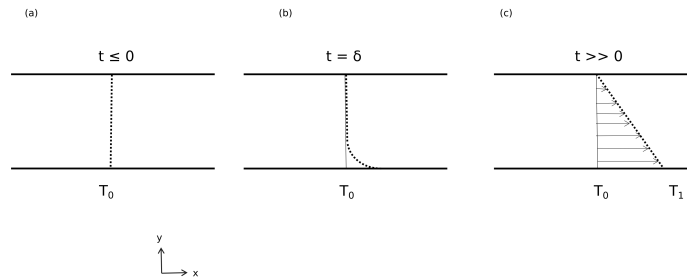

Figure 1.4: Solid slab of conducting material between 2 plates
- Consider two parallel plates : one placed at  $y = 0$  and the other placed at  $y = Y$  as shown in figure 1.4, with a conducting solid between them. Here we assume these plates are basically infinitely long and wide. The system is at equilibrium with no heat sources anywhere. Figure 1.4(a) shows how the temperature is uniform at  $T_0$  every point between the two plates.
- Figure 1.4(b) describes a snapshot of the system where some of the thermal energy has started to go across to the interface atoms of the slab but most of it is still yet unaffected.
- Note that the top plate is still exposed to the environment, which is assumed to be at the temperature  $T_0$ . Over time, the solid atoms begin to transmit heat across by the two mechanisms mentioned above and energy gets imparted along the y direction. Figure 1.4(c) showcases the steady-state temperature profile of the slab.
- Figure 1.4(b) describes a snapshot of the system where some of the helium has started to go across to the silica near the lower end of the slab.
- Note that the top end is still exposed to the environment where we just have air and the helium concentration is taken to be 0. Over time, the helium atoms begin to diffuse steadily across the slab and the concentration along points the y direction go up eventually. Figure 1.4(c) showcases the steady-state concentration profile of the slab.